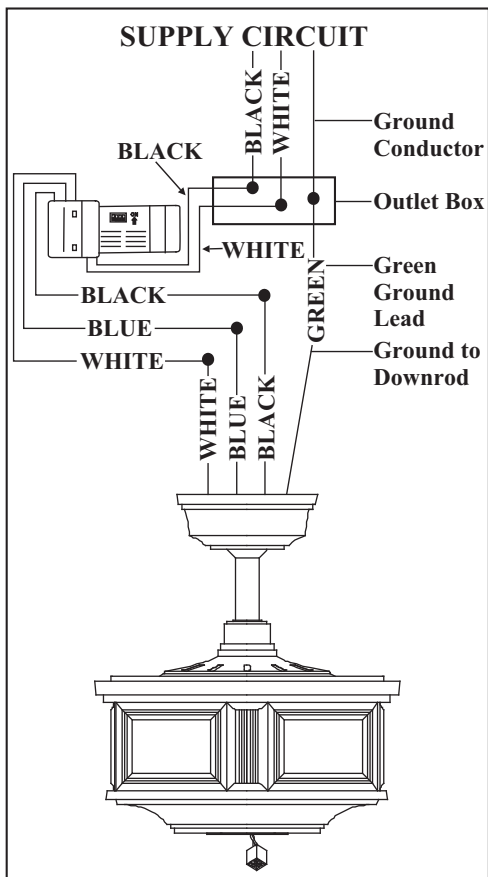

Figure 11
2. (Figure 11) Motor to receiver electrical connections: Connect the black wire from the fan to the black wire marked "TO MOTOR L". Connect the white wire from the fan to the white wire marked "TO MOTOR N" from the receiver. Connect the blue wire from the fan to the blue wire marked "For Light" from the receiver. Secure the wire connections with the plastic wire connecting nuts provided.
3. (Figure 11) Receiver to house supply wires electrical connections: Connect the black (hot) wire from the ceiling to the black wire marked "AC in L" from the receiver. Connect the white (neutral) wire from the ceiling to the white wire marked "AC in N" from the receiver. Secure the wire connections with the plastic wire connecting nuts provided.
4. (Figure 11) If your outlet box has a ground wire (green or bare copper) connect it to the fan ground wires; otherwise connect the hanging bracket ground wire to the mounting bracket. Secure the wire connection with a plastic nut provided. After connecting the wires spread them apart so that the green and white wires are on one side of the outlet box and black and blue wires are on the other side. Carefully tuck the wire connections up into the outlet box.